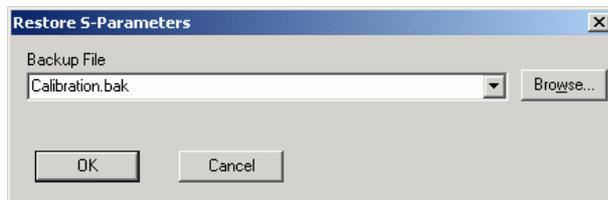

Fig. 3-4 Dialog window for loading the backup file of a calibration data set
- Press the **Restore...** button. The **Restore S-Parameters** window is opened (Fig. 3-4).